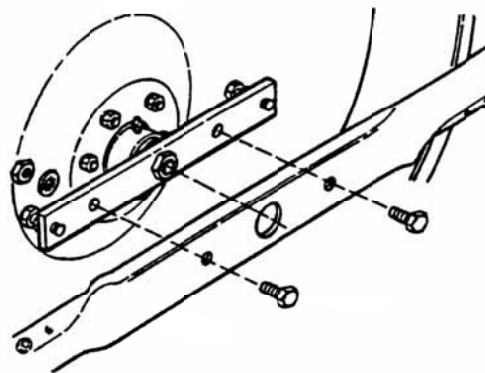

Figure 26. Blade Removal - 33” Deck
2. See Figures 26 and 27. Remove blade to inspect it or to safely access the underside of the mower deck. Use a block of wood to prevent blade rotation while loosening the hardware by turning it counterclockwise.